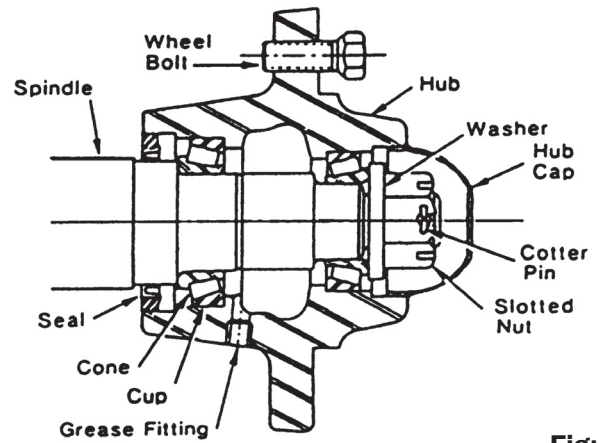

Figure 2
5. Reassemble hub and bearings, Figure 2.